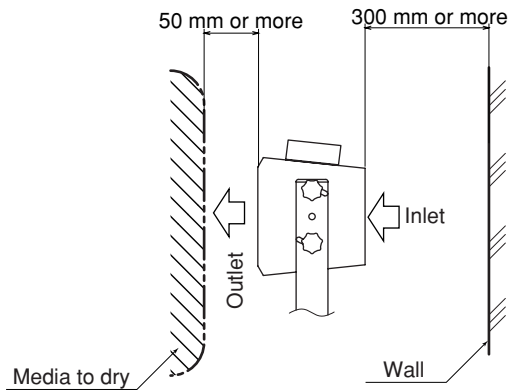

Figure 2-2 Dryer installation space 2
- ◆ Keep the inlet and outlet of the dryer away from shielding as shown in Figure 2-2.